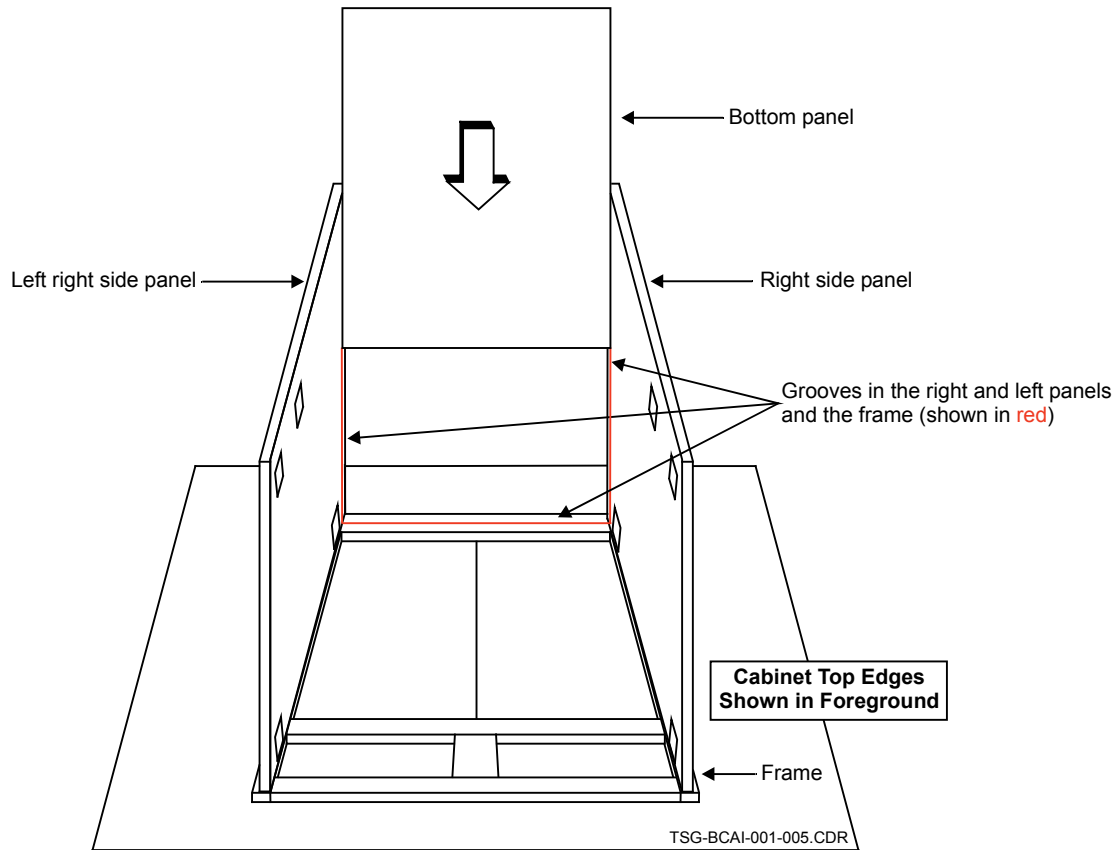

Figure 6 — Attach the Bottom Panel
- (4) As shown in Figure 6, slide the bottom panel into the grooves of the right and left side panels and then into the groove in the frame below until it is fully seated.